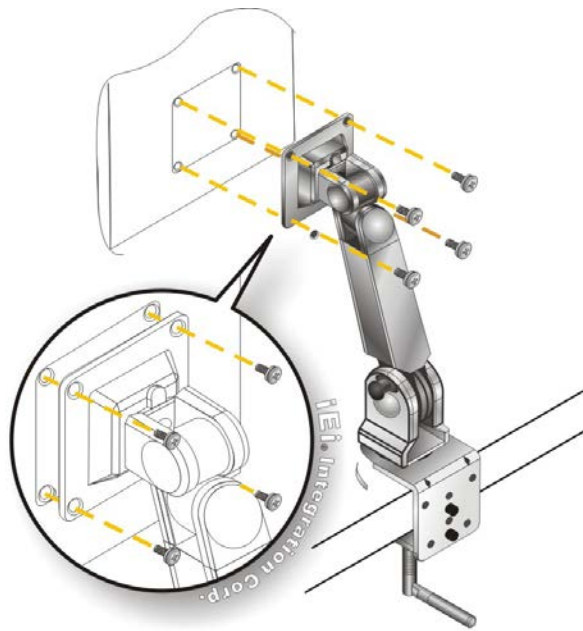

Figure 3-10: Arm Mounting
- Step 4:** Secure the IOVU-210AD-RK39 to the interface pad by inserting four retention screws through the bottom of the mounting arm interface pad and into the IOVU-210AD-RK39 (**Figure 3-10**).